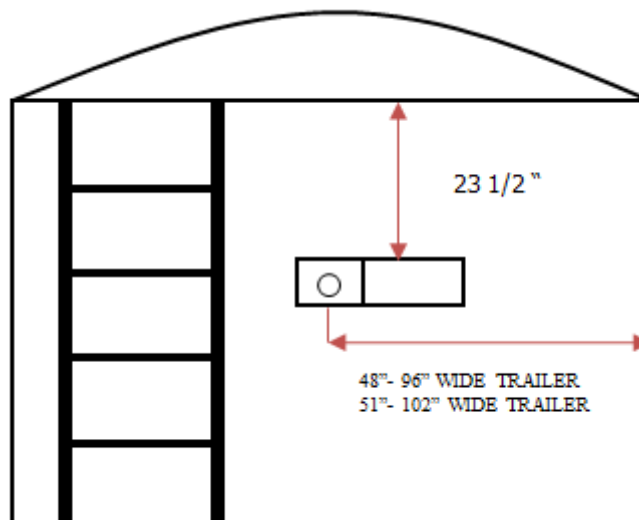

Figure 24
1. Used on Grain Trailers with rigid front and rear arms. On FRONT & REAR of the trailer measure from the top of the trailer, straight down approximately 23 1/2" and put a mark on the front and rear face of the trailer (If this interferes with the catwalk the arm can be mounted higher.) This line should be as close to center as possible. Refer to the figure 24 below.